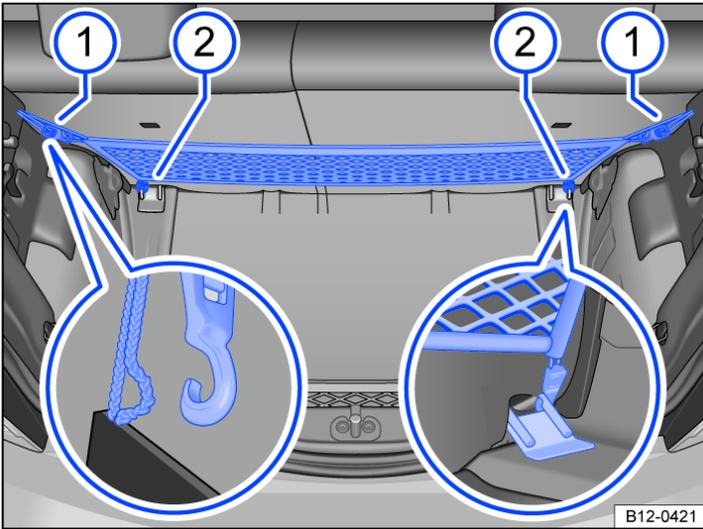

Fig. 1 In the luggage compartment: luggage net secured behind the rear seat backrest.
- Guide the upper hooks of the luggage net through the eyes of the rear seat backrest catches \rightarrow Fig. 1 ¹ and attach to the loops of the luggage net (close-up) \rightarrow ⚠.